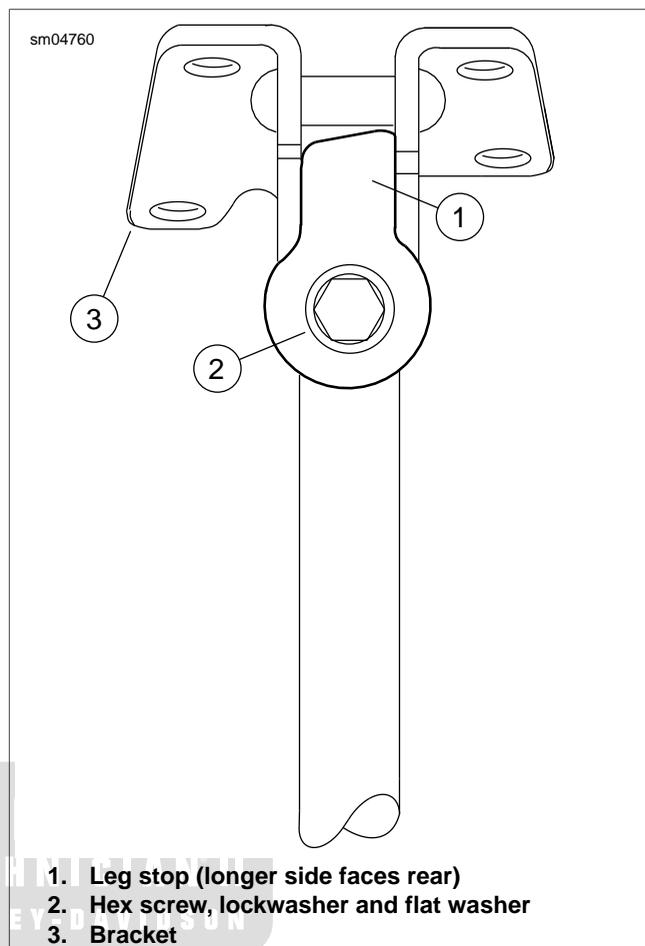

Figure 2-178. Leg Stop Orientation in Full Forward (Down) Position
2. Move jiffy stand to the full forward (down) position. Remove hex screw, lockwasher, flat washer and leg stop from threaded end of jiffy stand. See Figure 2-178.
- Verify that the longer side of the leg stop faces the rear of the motorcycle. See Figure 2-178.